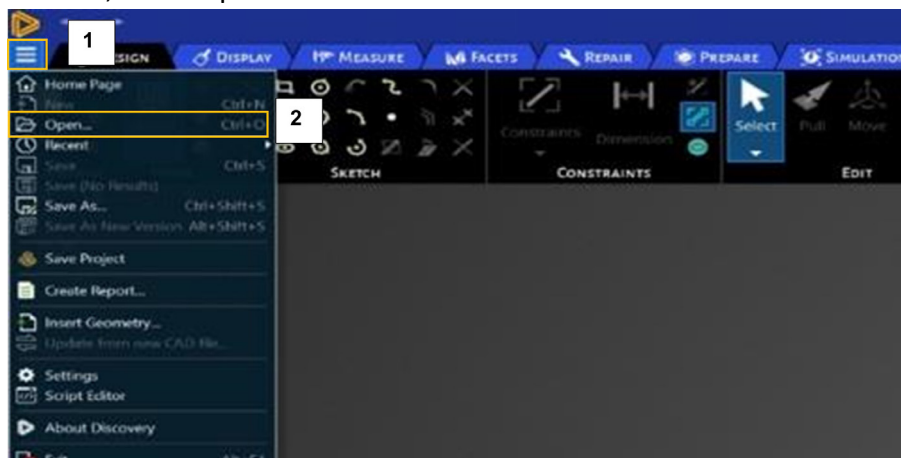

Figure 3: Steps to import geometry using the Ansys Discovery Software
2. Click the three lines in the top left of the screen, seen in Figure 3, to open the “File Menu” (1), select “Open” (2) to open your files.